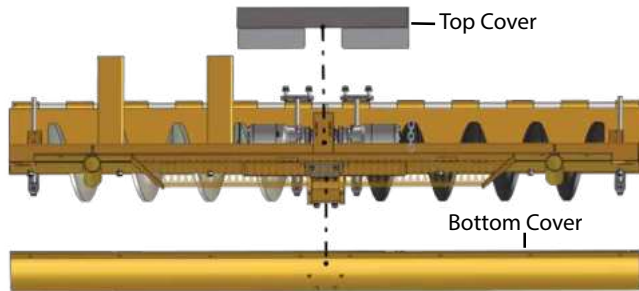

Figure 5-33. Top and Bottom Covers (Top View)
4. Remove the two (2) nuts holding top cover on and pry cover apart. **(Figure 5-33)**